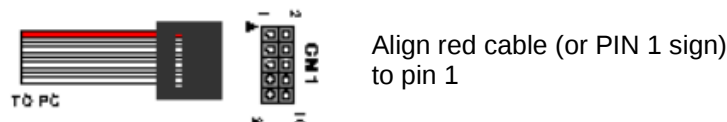

Fig. 15 ByteBlaster II (or USB Blaster) connection
3. Connect the **ByteBlaster II** plug to **CN24** (Card address: X.5, 4.0) (Fig. 15).
3. Connect the **ByteBlaster II** plug to **CN1** (Card address: N.0, 1.0) (Fig. 15).
3. Connect the **ByteBlaster II** plug to **CN1** (Card address: P.8 , 3.0) (Fig. 15).